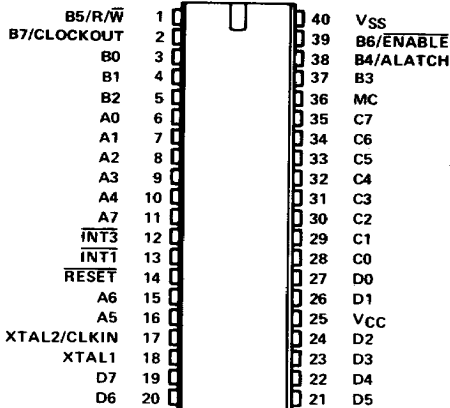

FIGURE 4-7 — SC, FE, PE, AND MICROPROCESSOR MODE PIN ASSIGNMENTS
Figure 4-7 defines the pin assignments and describes the function of each pin for the Single-Chip (SC), Peripheral Expansion (PE), Full Expansion (FE), and Microprocessor Modes for the TMS70X0 family (TMS7000, TMS7020, TMS7040, TMS70120).